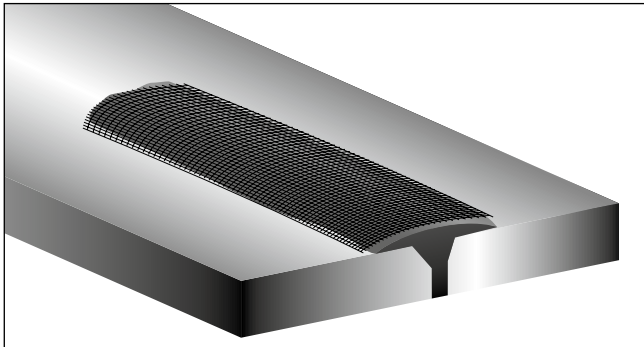

Figure 12. Reinforce the repair by applying tape over the epoxy.
5. **REINFORCING MESH:** Use a reinforcing mesh, such as fiberglass or wire screening, to lay a strip of the reinforcement material over the application and imbed the tape into the epoxy. (See Figure 12)